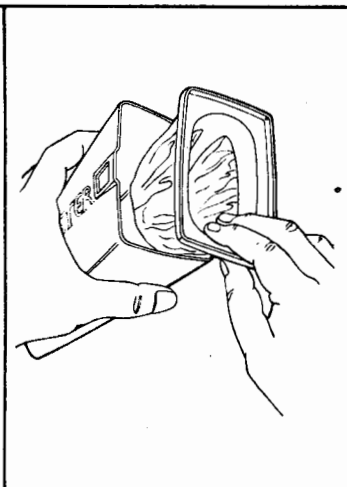

Fig. 9
3. Place fingers in bowl and remove filter bag from collector bowl. (Figure 9).